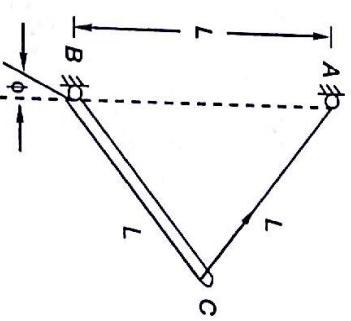

Fig. 3.65
- 3.8 A bar of uniform section, length L and mass mg is held in position by a string of length L . Distance AB is also L . What is the direction of reaction at B with the vertical? What is angle ϕ ? (Fig. 3.65).